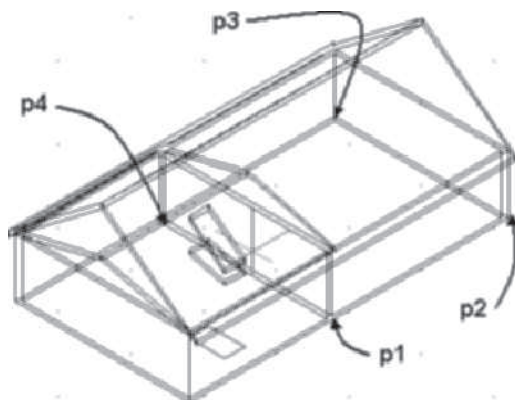

FIGURE 8.14 Slab vertex points
12. Select **Slab** from the Design palette and edit the Properties palette as follows: Basic-General: Style = **Standard**, Bound Spaces = **By Style**, Mode = **Projected**, Dimensions: Thickness = **6 [150]**, Vertical Offset = **0**, Horizontal Offset = **0**, Justify = **Top**, Base height = **8'-6 [2650]**, Direction = **Left**, Overhang = **0**, Perimeter edge = **None**, and Rise = **0**. Select the following vertices at **p1**, **p2**, **p3**, **p4**, and **p1** as shown in Figure 8.14.